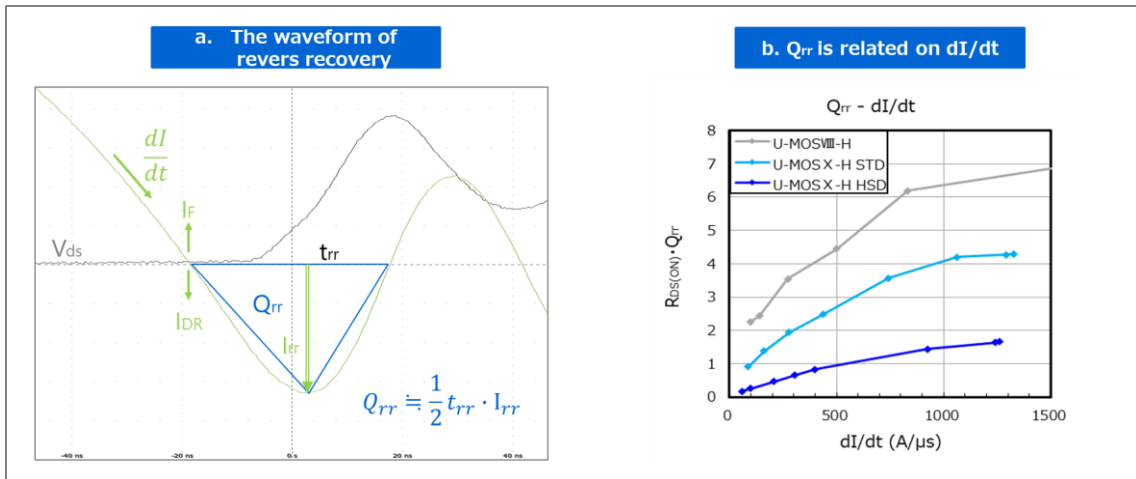

Figure 2.2.7.  $dI/dt$  dependency on  $Q_{rr}$
AC-DC and DC-DC, both converters consist of switching (SW) device and synchronous rectification (SR) device. Duty ratio for regulation is controlled by SW device, and then SR devices rectify and convert it into direct current. Generally, the faster switching condition is preferred in order to reduce the switching loss on SW device, however on the other hand, it may increase the reverse recovery loss on SR device since  $Q_{rr}$  increase in proportion to  $dI/dt$  as shown in Fig.2.2.7.